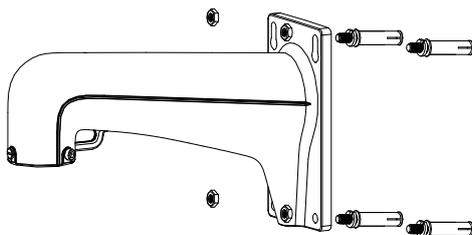
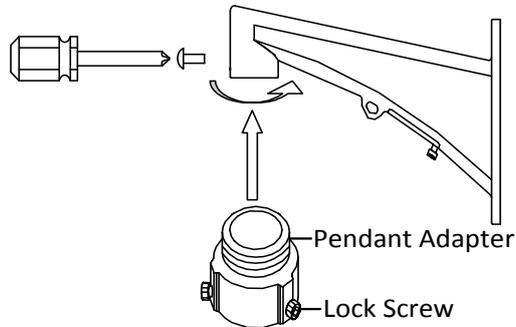

Figure 3-8 Install the Bracket
Figure 3-11 Pendant Adapter
- The bracket in Figure 3-8 is the recommended bracket for this series of speed dome, and a pendent adapter is required if any other bracket is selected. See Figure 3-11.